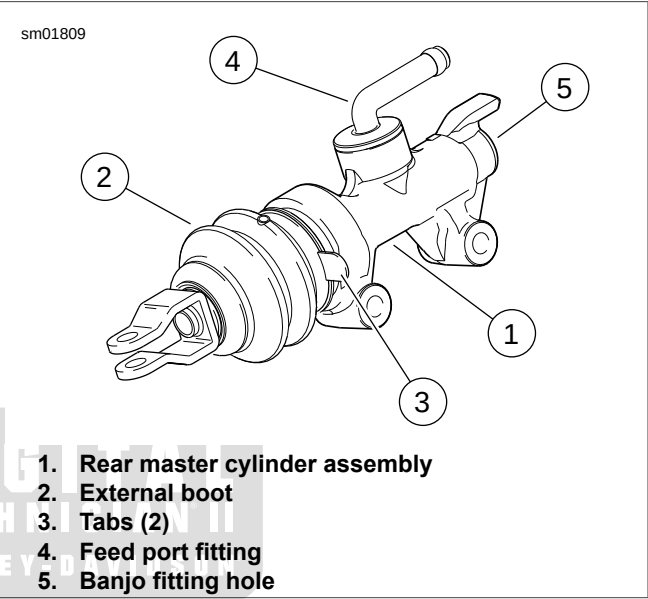

Figure 2-90. Assembled Rear Master Cylinder
17. See Figure 2-90. Remove master cylinder assembly from vise. Slide external boot (2) over yoke/pushrod assembly and external return spring.
- a. Position external boot tabs (3) at the 3 o'clock and 9 o'clock position when master cylinder body (1) is held upright. The drain hole is at bottom of boot when master cylinder is mounted.